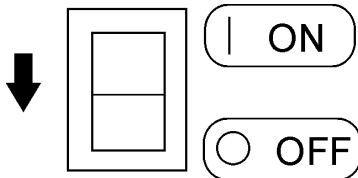

Figure 26. Idle Control Switch (Off)
2. Place the *idle control switch* (Figure 26) in the **OFF** position.